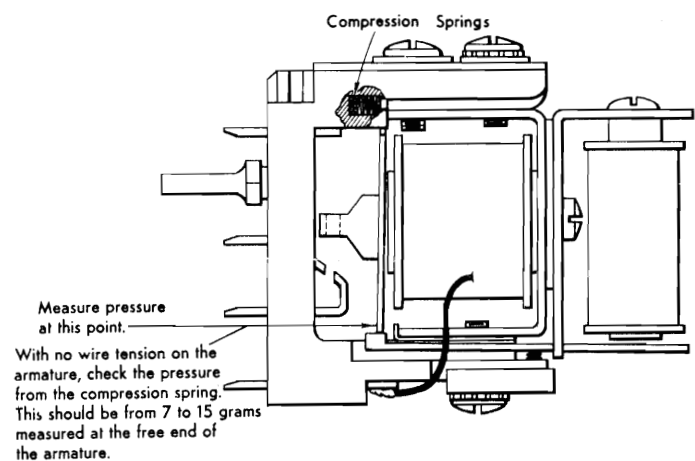

Figure 22. Adjustment 2
2. Figure 22. With the contact wires removed, the two relay armature pivot springs must exert 7 to 15 grams pressure against the relay armature at its free end.